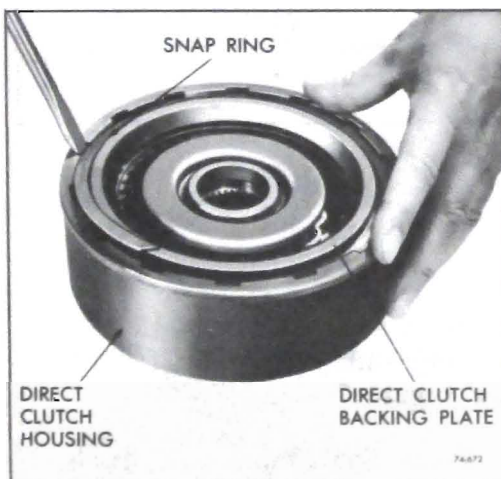

Figure 76-672
3. Turn unit over and remove backing plate to clutch housing snap ring. See Figure 76-672.